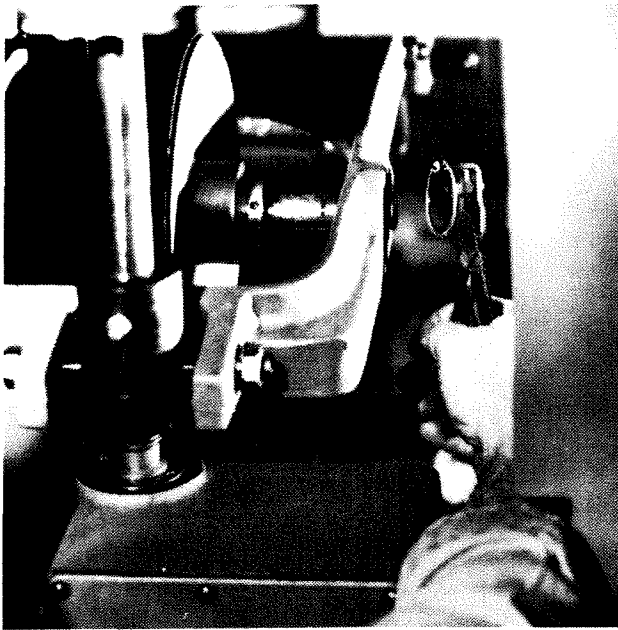

Figure 3.22 - Countershaft Snap Ring Removal
22. Remove the snap ring from the right side of the pulley hanger, as shown in Figure 3.22 .